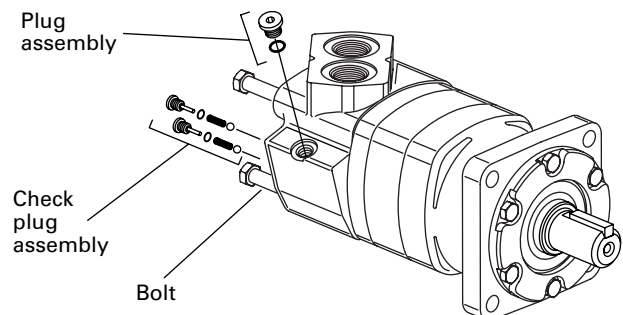
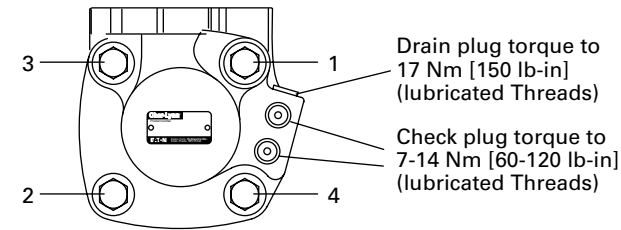

Figure 23
Figure 24
43. Install and finger tighten 2 bolts (or studs for earlier models) opposite alignment studs. Remove alignment studs and install remaining bolts (or studs and 4 nuts for earlier models). Torque bolts (or nuts) to 98 Nm [864 lb-in/ 72 lb-ft], in sequence (see Figure 24).
44. Install 2 check plug assemblies (ball, spring, plug with seal). Also install case drain plug with seal, parts shown in Figure 23 and plug torque shown in Figure 24.